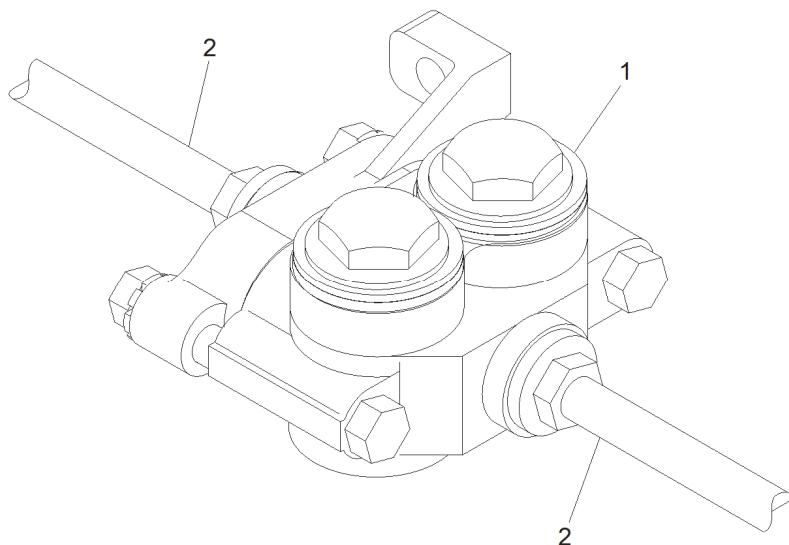

Figure 3-3: Duplex Check Valve Inspection
1. Check duplex check valve (1) for obvious visible damage such as dents, scratching, scoring, corrosion, or missing parts. If excessively damaged or missing parts, replace duplex check valve. See Figure 3-3.
2. With brake system pressurized, apply leak detector to pipe connections (2) and body seams of duplex check valve (1).